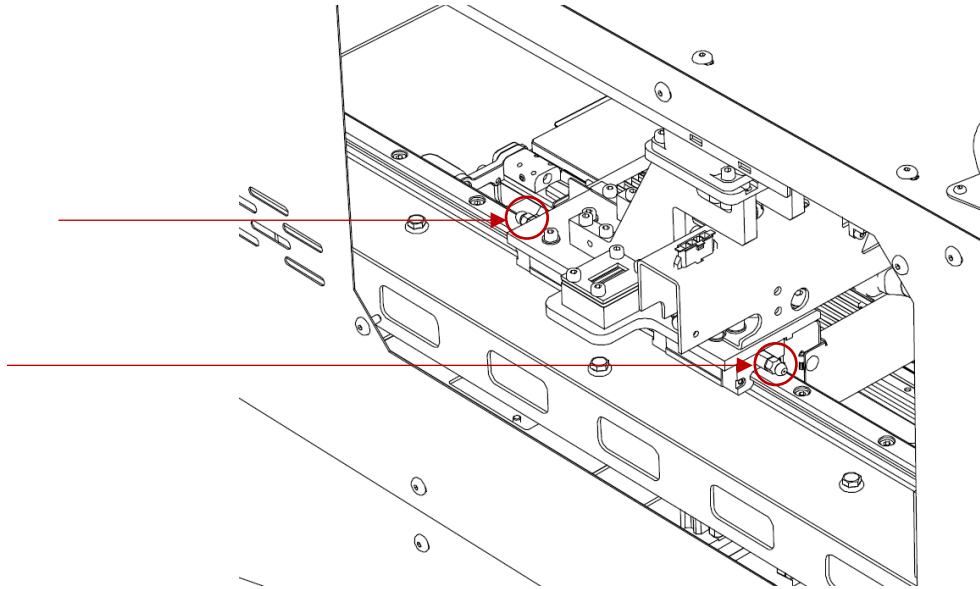

Fig. 95 Grease nipples are visible through top right inspection opening
6. Manually move the X-axis gate to a position where you can access the grease nipples on both sides through the inspection opening (Fig. 95).